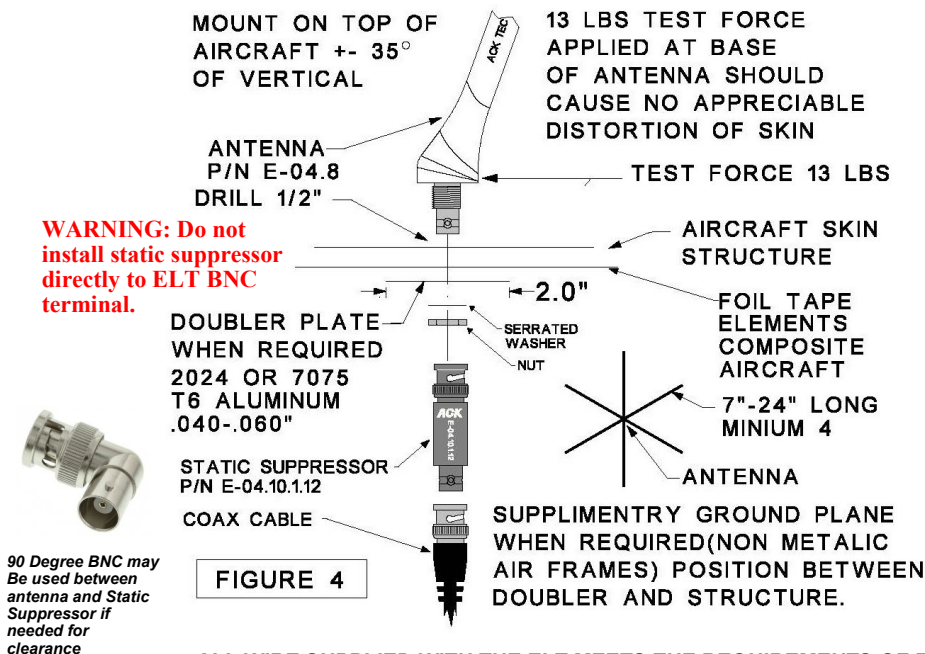

FIGURE 4
- 1.) Drill a 1/2" (13mm) diameter hole in the aircraft at the antenna mounting location (Fig. 4)
- 3.) If the antenna is being mounted on a non conductive portion of the airframe, a supplementary ground plane must be installed. The supplemental ground plane must have a minimum diameter of 14" or more however 48" will provide maximum power at 121.5 MHz and is recommended. The ground plane must be centered around the base of the antenna. This may be fabricated out of copper, or aluminum tape. The tape should be cut into six elements 12" long, and the tape elements should be evenly spaced, radiating in a circular pattern from the base mounting point of the antenna. (Fig. 4) Make sure all elements are electrically bonded to the base of the antenna. The tape may follow the contour of the fuselage. The metallic airframe of fabric covered aircraft may be used as the ground plane. When installing the antenna, make sure the base of the antenna is electrically bonded to the tubing frame. A static suppressor is supplied install as shown in (Fig 4)
- 4.) Assemble the antenna as shown in figure 4. Make sure the rubber washer that forms a moisture seal between the antenna base, and aircraft structure, is in place before installing the antenna. Also make sure the serrated locking washer is in place. If the aircraft skin at the mounting point is less than .060" thick when installing the P/N E-04.8 whip antenna, a 2" diameter doubler plate must be fabricated using .040" thick 2024, or 7075 T6 aluminum.